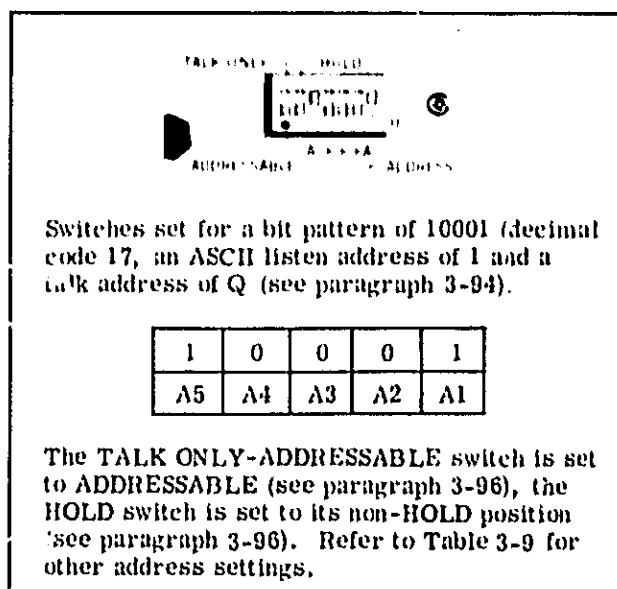

Figure 3-23. Control of Switch.
3-91. The front panel of a Model 4271B equipped with Option 101 HP-IB Interface (see Figure 3-22) is the same as that of a standard instrument. Figure 3-23 shows the rear panel of a 4271B with Option 101 installed. Figure 3-22, the front panel, is shown for reference.
switch in the group of control switches on the rear panel is set its HOLD(1) position (see Figure 3-23).